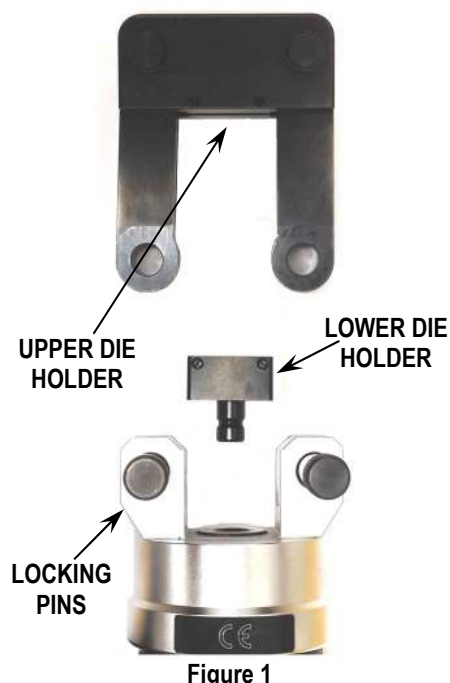

Figure 1
1. Slide out the two locking pins that attach the upper die holder portion of the crimp head to the Power Crimp Tool. The pins come out only far enough to remove the crimp head. The head will then slide off of the Power Crimp Tool holder. See Figure 1